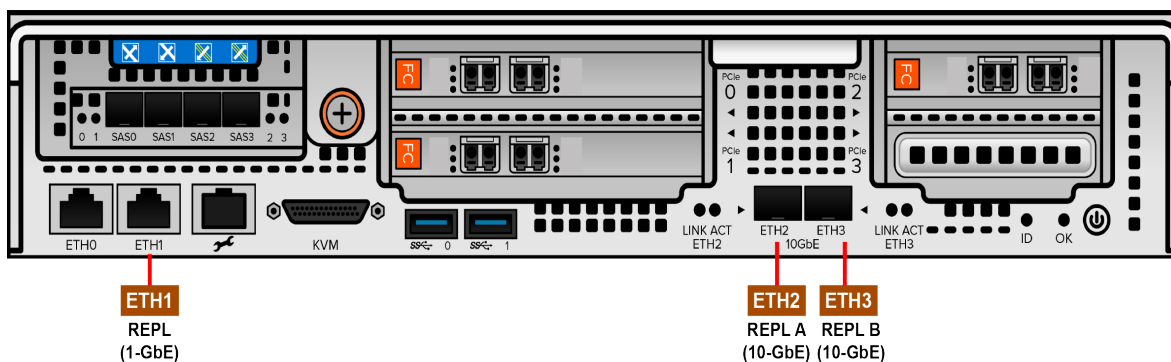

**Figure 6. Connecting SAN Networks**
- 1. On **CT0**, use customer-supplied cables to connect host ports. On FlashArray//M10 only, connect **ETH2** and **ETH3** to SANs. On all other FlashArray//M or //XR1 models, connect **FC0** through **FC9** or **ETH4** through **ETH9** to SANs. See Figure 6 for port locations.